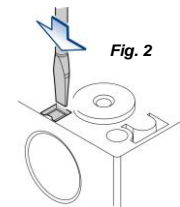

Fig. 2
- If necessary, make water drain holes by breaking the weakened spot with a screwdriver (Fig.2).